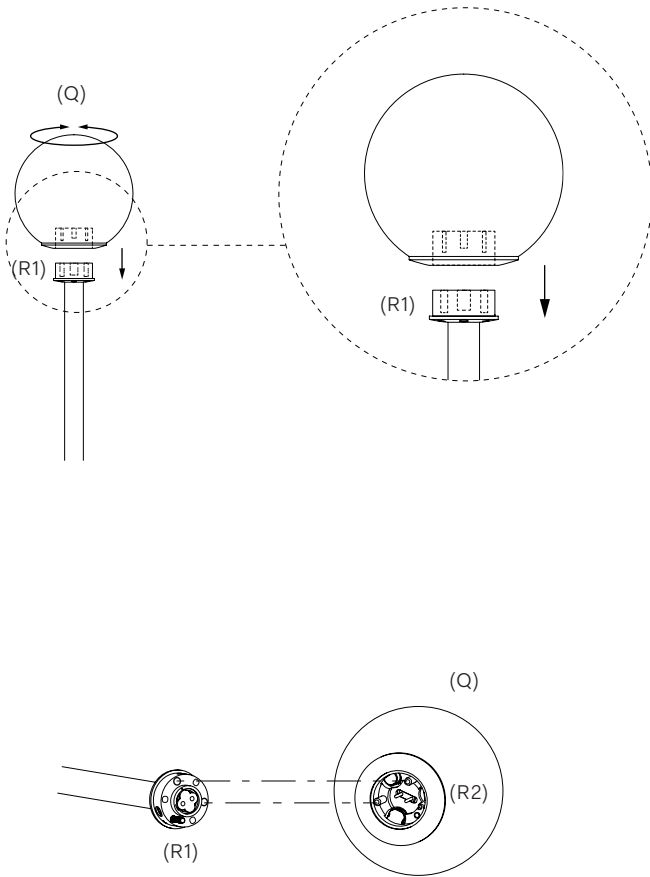

Fig. 16
Again, on a soft surface, using gloves, secure the Small Glass Sphere 1 (Q) onto the Lamp Body 1 (P). Carefully rotate the Small Glass Sphere 1 (Q) onto the Small Male Glass Connector (R1) until the internal location pins are aligned. Gently push the Small Glass Sphere 1 (Q) onto the pins until the outside faces of the Small Female Glass Connector (R2) and Small Male Glass Connector (R1) sit flush. Secure the Small Glass Sphere 1 (Q) with the supplied M2×8 screw, ensuring it is tight. See Fig.15 and Fig.16